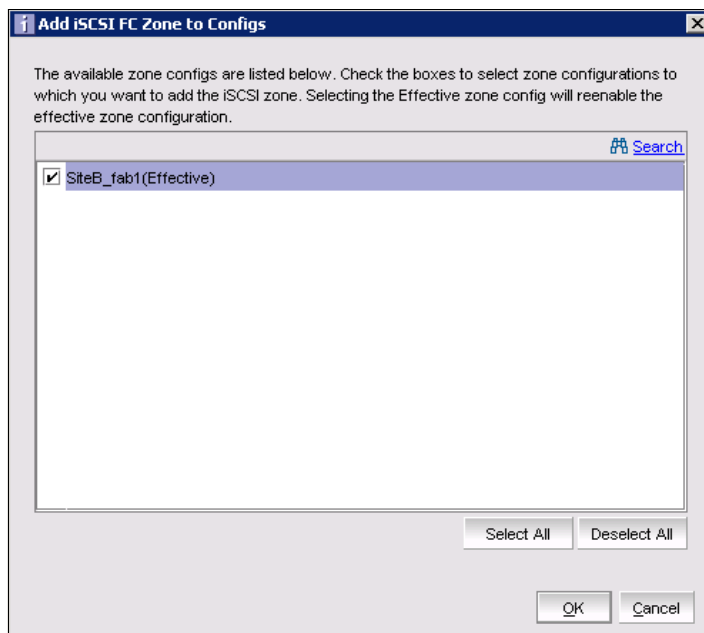

Figure 11-27 Zone configuration selection
7. In our fabric, we have an effective zone, SiteB\_fab1. The wizard notifies us about this and asks us to select the zone configuration to which to add the iSCSI\_FC\_Zone (Figure 11-27). Select the appropriate zone configuration and click **OK**.